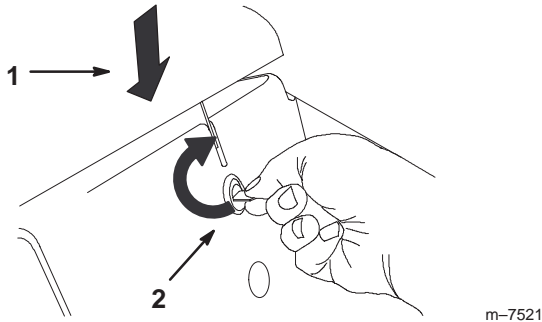

Figure 30
1. Push down on the hood while using a coin or screwdriver to turn the hood latch clockwise (Fig. 30).